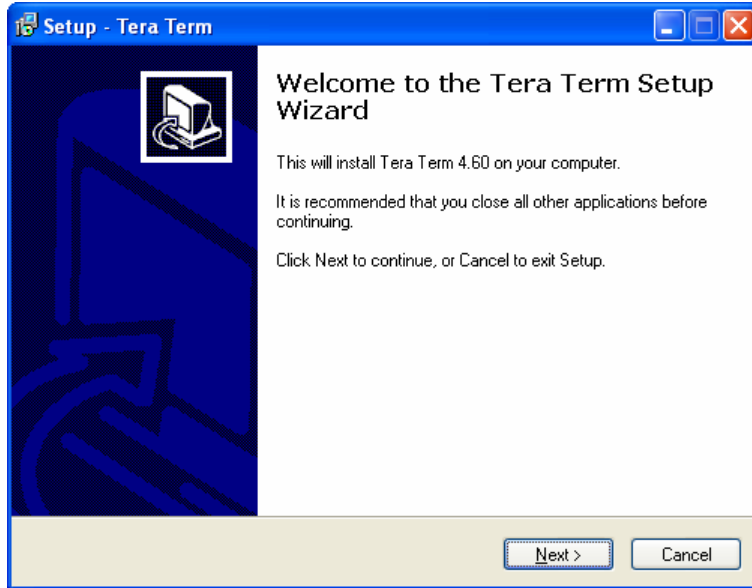

Figure 6-13: Tera Term Setup Screen
7. When the Tera Term setup screen appears, click **Next** (Figure 6-13).